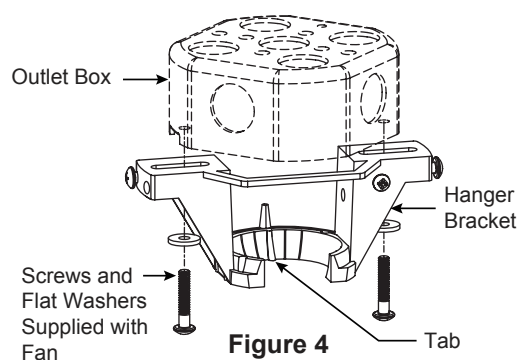

Figure 4
- ☐ 4. Loosen the two set screws and locking nuts in the downrod support of the motor assembly. Route the black, white and blue wires through the downrod. (Figure 4)
- ☐ 4. Align the three big slots in the ceiling canopy to the three screws in the motor coupler. Firmly attach the canopy cover to the motor with the previously removed screws. (Figure 4)
2. Securely attach the hanger bracket to the outlet box using the #8-32 outlet box screws and washers supplied with the fan. (Figure 4)
NOTE: Outlet box screws pass through slotted holes of the hanger bracket. (Figure 4)
- ☐ 4. Carefully lift the fan and seat the downrod/hanger ball assembly onto the hanger bracket that was just attached to the outlet box. (Figure 5) Be sure the groove in the ball is lined up with tab on the hanger bracket. (Figure 4)